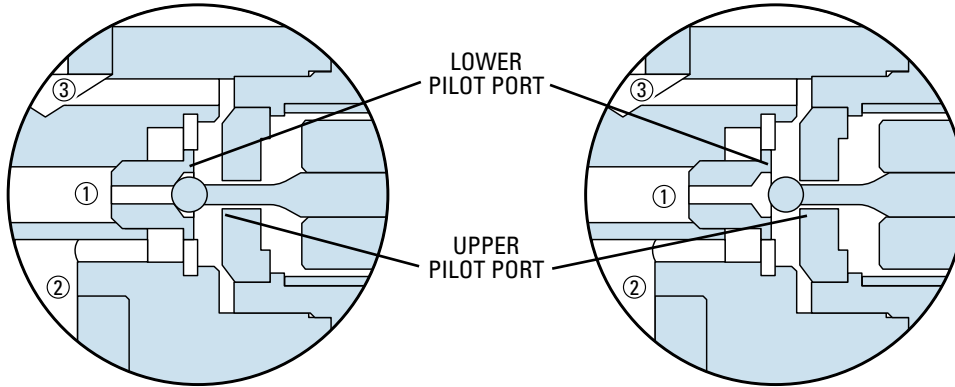

Figure 3
See Figure 3, page 20. When the pilot valve is energized, high side pressure ① is permitted to flow through the lower pilot port. At the same time, the upper pilot port is closed to suction. High side pressure ①, builds up on top of the piston W, moves the piston-seat assembly to close the normal condenser port, and opens the reclaim (upper) main port. With the upper pilot port closed, there is no high to low side bleed with the system in the reclaim mode.